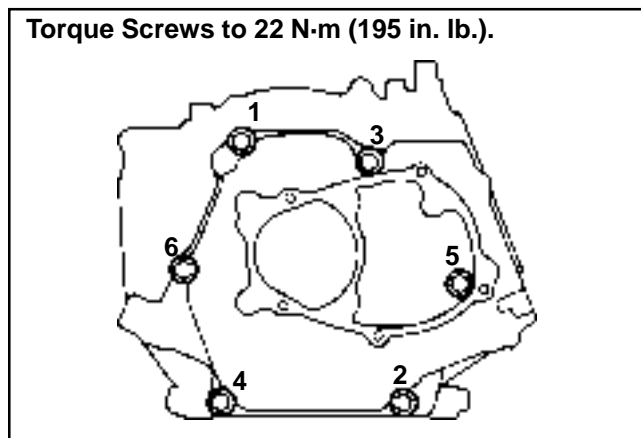

Figure 11-22. CS4, CS6. Closure Plate Torque Sequence.
4. On pump (threaded crankshaft) models only, install two or three of the fasteners securing the closure plate to the crankcase. Check crankshaft end play using a dial indicator. End play must be 0.0/0.2 mm (0.0/0.007 in.). If end play is not within the specified range, shims are available in the following thicknesses: 0.1 mm (0.0039 in.), 0.2 mm (0.007 in.), and 0.3 mm (0.011 in.) for CS4 and CS6; 0.1 mm (0.0039 in.), 0.2 mm (0.007 in.), 0.3 mm (0.011 in.), and 0.4 mm (0.015 in.) for CS8.5-12. When proper end play has been established, install all screws and torque in the sequence shown in Figure 11-22 or 11-23.
On all other models, install the hex. flange screws securing the closure plate to the crankcase. See Figure 11-22 or 11-23.